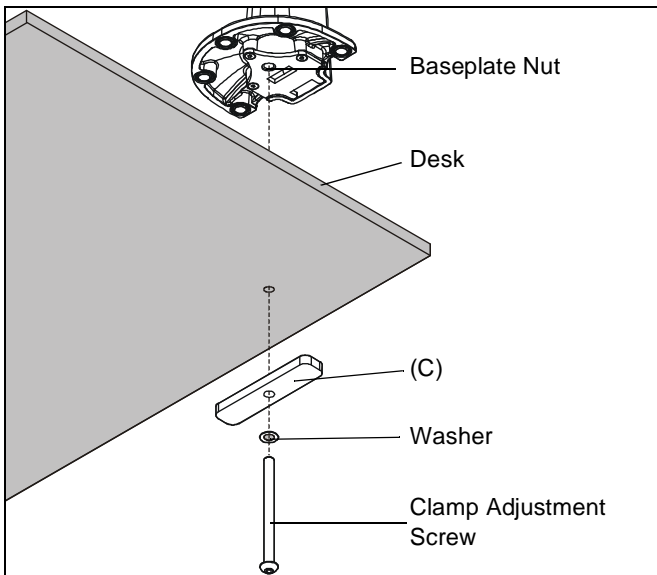

Figure 5
- From below desk, insert retained clamp adjustment screw and washer through bracket (C) and up through hole in desk (See Figure 5). Using 3/16" hex key (H), thread screw into baseplate nut but do not tighten completely at this time.